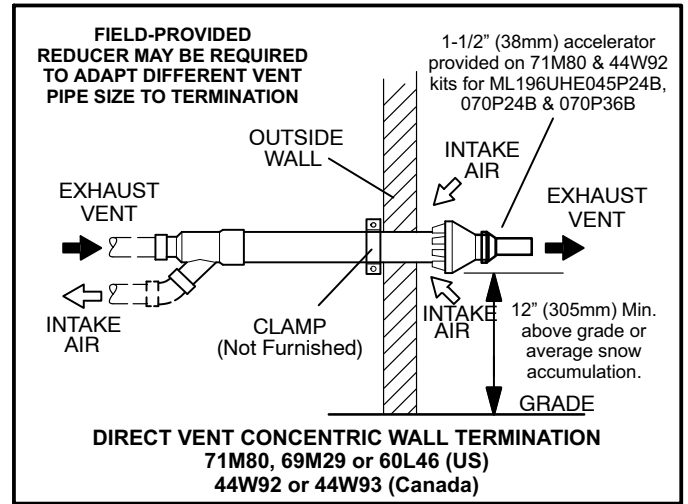

**FIGURE 34**
Intake and exhaust pipes may be routed either horizontally through an outside wall or vertically through the roof. In attic or closet installations, vertical termination through the roof is preferred. Figures 34 through 41 show typical terminations.
3. On roof terminations, the intake piping should terminate straight down using two 90° elbows (See figure 34).